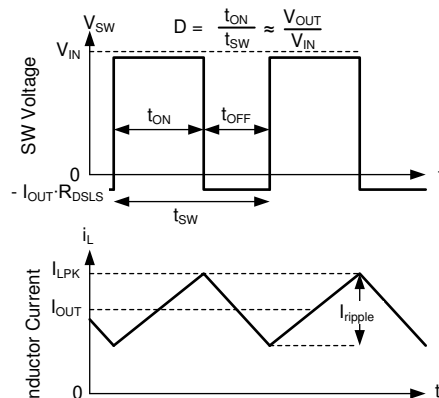

Figure 23. SW Voltage and Inductor Current Waveforms in Continuous Conduction Mode (CCM)
The following operating description of the LMR36506-Q1 refers to the Functional Block Diagram and to the waveforms in Figure 23. In CCM, the LMR36506-Q1 supplies a regulated output voltage by turning on the internal high-side (HS) and low-side (LS) switches with varying duty cycle (D). During the HS switch on-time, the SW pin voltage, V_{SW} , swings up to approximately V_{IN} , and the inductor current, i_L , increases with a linear slope. The HS switch is turned off by the control logic. During the HS switch off-time, t_{OFF} , the LS switch is turned on. Inductor current discharges through the LS switch, which forces the V_{SW} to swing below ground by the voltage drop across the LS switch. The converter loop adjusts the duty cycle to maintain a constant output voltage. D is defined by the on-time of the HS switch over the switching period: